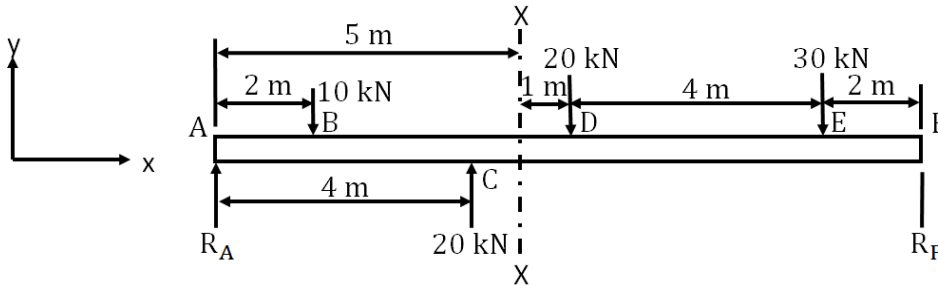

Fig. Q 4 (b)
- a) Construct the shearing force and bending moment diagrams for the beam shown in Fig. Q 4 (b). (13 marks)
- b) A timber joist 15 cm by 7.5 cm has reinforcing steel flange plates 1.25 cm thick as shown in Fig. Q 4 (a). The composite beam is 3 m long, simply-supported at each end and carries a uniformly distributed lateral load of 10 kN. Taking $\frac{E_s}{E_t} = 20$, Estimate: